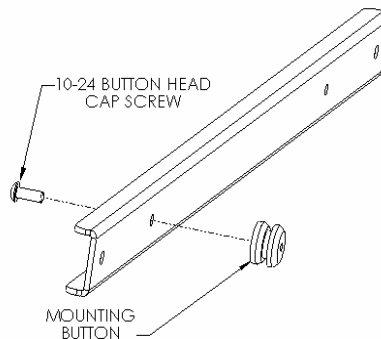

Figure 2
1. Using a 10-24 button head cap screw inserted from back side of bracket, secure mounting button, with chamfered hole of mounting button (larger surface) facing bracket, to top bracket (two places) (see Figure 2).